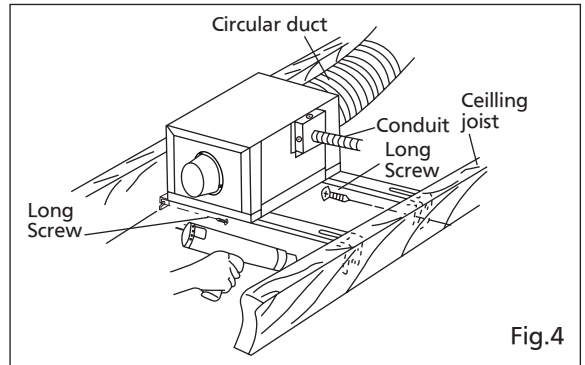

Fig.4
6. Attach the In-Line Fan to a joist or a pillar with the long screws. (Fig.4)